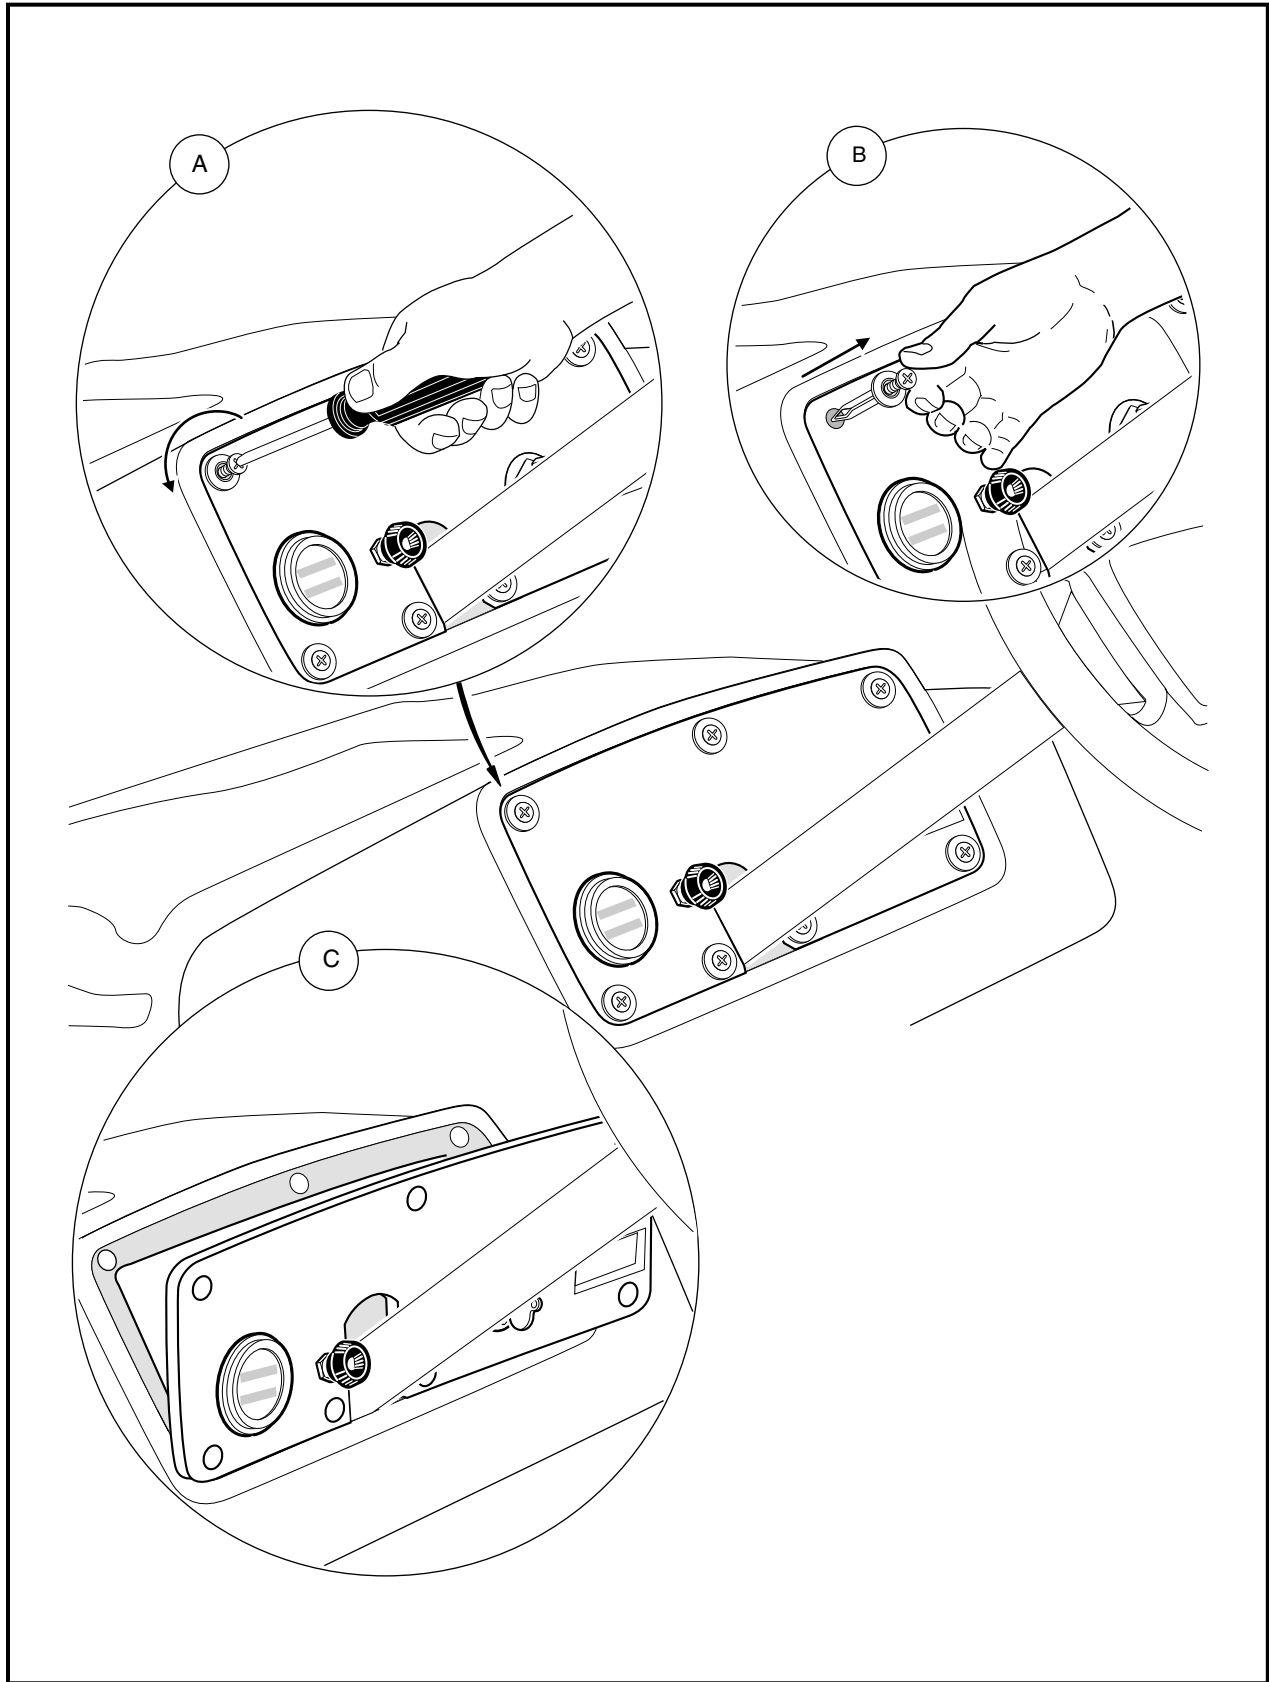

Figure 4-1 Dash Panel Removal
- 2.1. Loosen the seven Tuflok[®] screws around the panel, but do not remove the screws completely, as shown in Detail A (**Figure 4-1, Page 4-5**).